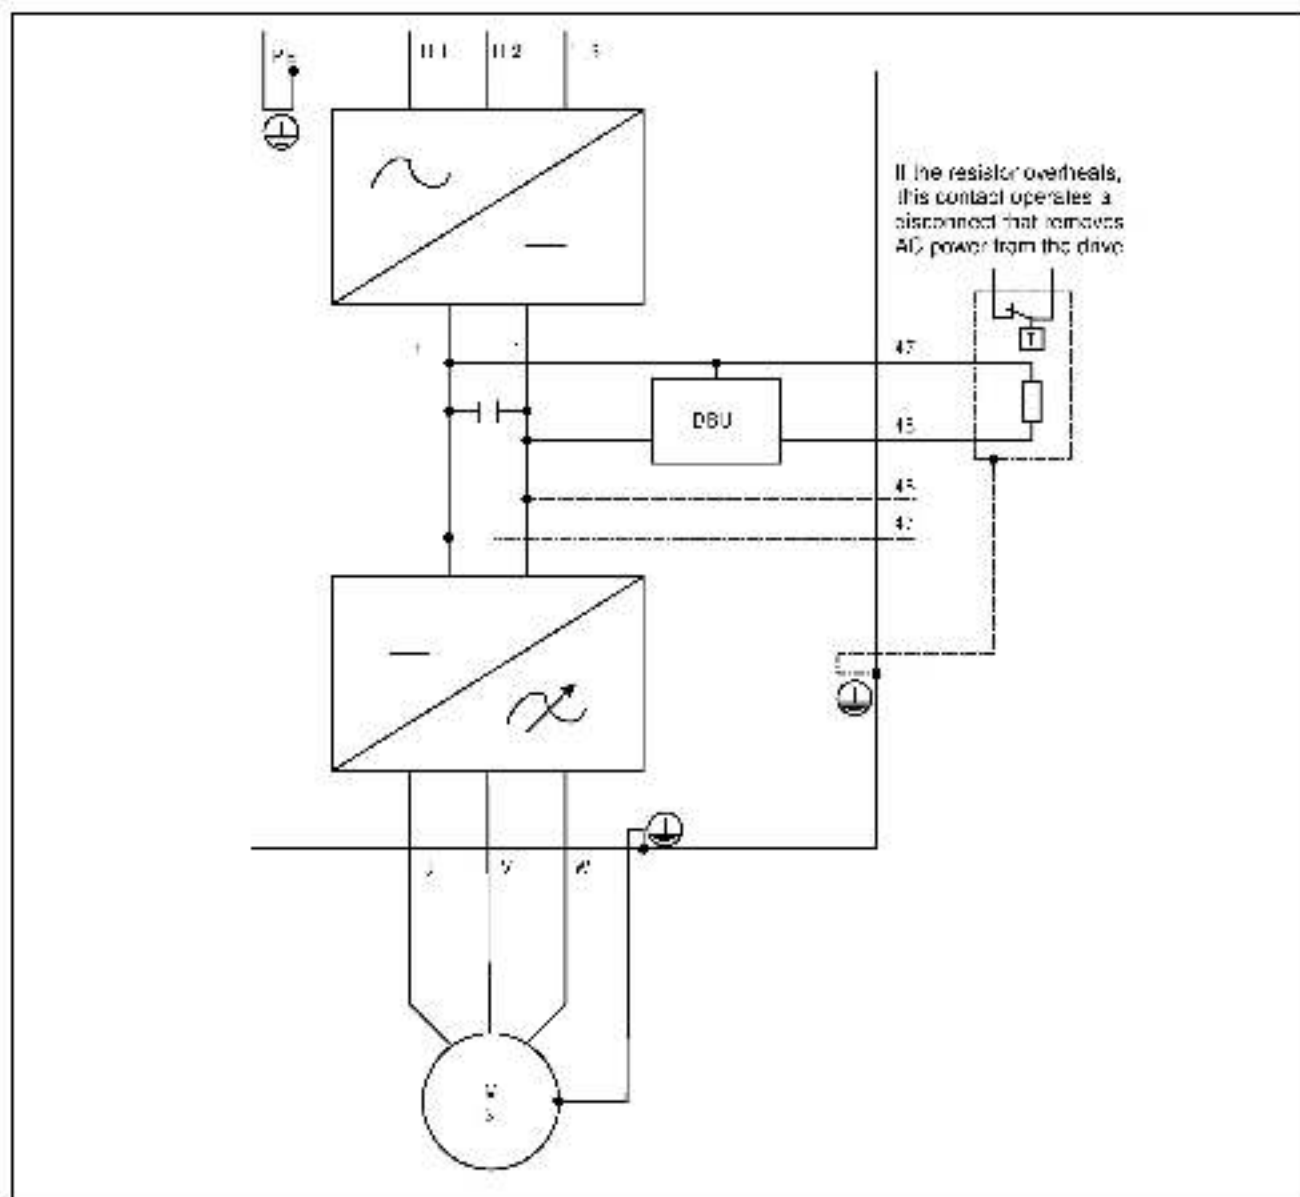

Figure 8.1 – Evolving Hashtor Winning Connections
- Provide ground connections as shown in figure 8.1.
To prevent possible damage due to an overload on the braking resistors, install a thermal protection device according to figure 8.1 and table 8.3.